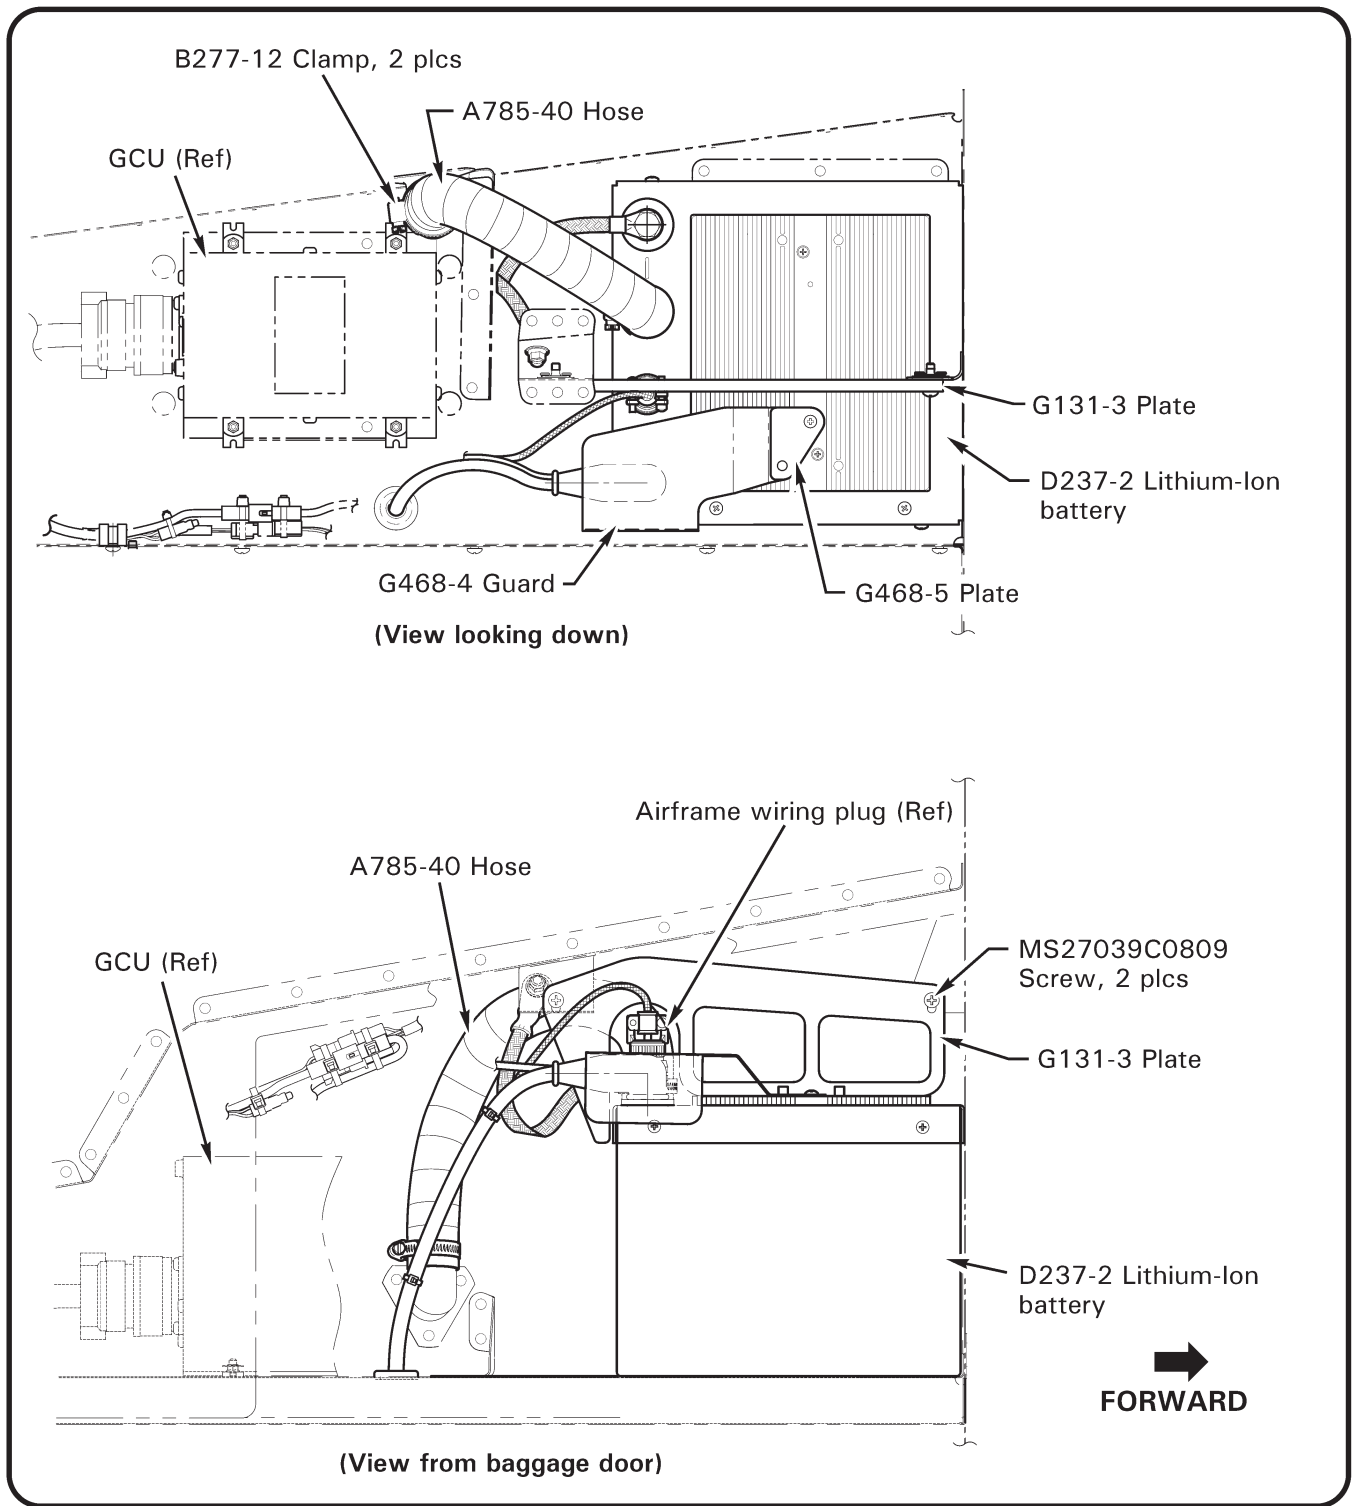

FIGURE 1
1. Remove lithium-ion battery per R66 Maintenance Manual (MM) § 96-12 B. Remove and retain B277-12 clamp from vent hose. Cover battery terminals, vent, and interface connector with non-metallic tape. If G468-5 plate & G468-4 guard are installed, they may remain on battery (see Figure 1).
2. Refer to Figure 1. Remove hardware securing G131-3 plate and remove plate.
22. Refer to Figure 1. Install G468-4 guard and G468-5 plate using (1) MS35206-277 screw onto D237-2 lithium-ion battery, if not previously installed. Carefully install battery. Connect battery per MM § 96-12 C 6 & 7.